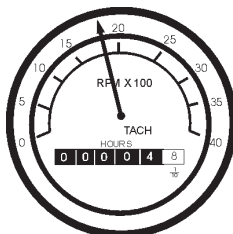

Figure 52. Engine Tachometer Gauge
17. The **tachometer gauge** (Figure 52) will indicate the speed of the engine when the generator is operating. Under normal operating conditions this speed is approximately 1800 RPM's.